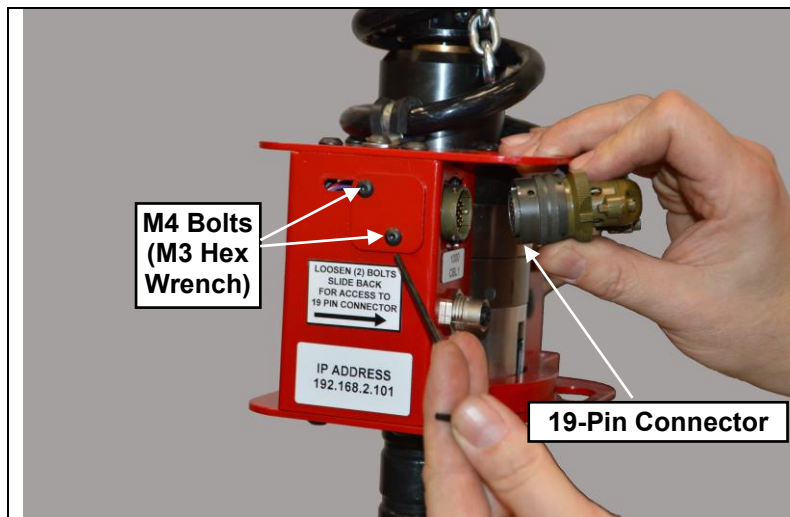

Figure 2-15
- Step 5. Loosen the (2) two M4 screws holding the 19-pin receptacle and slide it out of the control handle's housing. (See Figure 2-15)
- Step 6. Connect the 19-pin connector to the receptacle, slide it back into the control handle's housing and secure the (2) two M4 screws. (Refer to **Error! Reference source not found.16**)
- Step 7. Secure the (2) two M6 bolts for each of the handle coil cable clamping rings located on top of the control handle. (Refer to **Error! Reference source not found.15**)